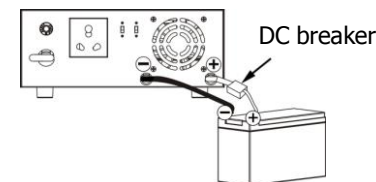

Fig. 1
Step 1- Install a DC Breaker in a positive battery line. The rating of the DC Breaker must be at least 60Amp for 700VA model and 100A for 1200VA model to guarantee safe operation without interruption. Keep the DC breaker off. **(see Fig. 1)**
1) Single battery connection (Refer to Fig. 1): When using a single battery, its voltage must be equal to the Nominal DC Voltage of the unit.